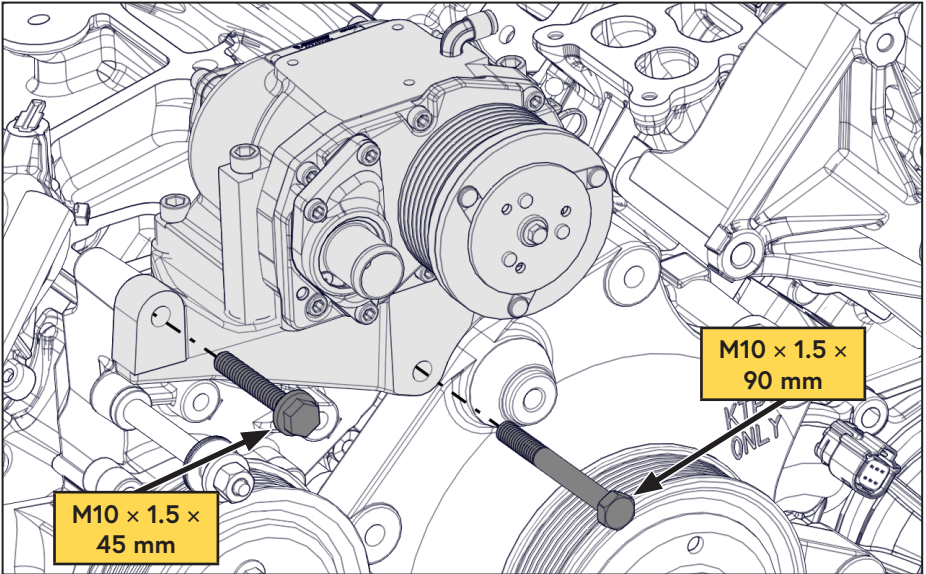

Figure 14 — Mounting the compressor onto the engine
- Install the compressor and main bracket assembly onto the engine (Figure 14).